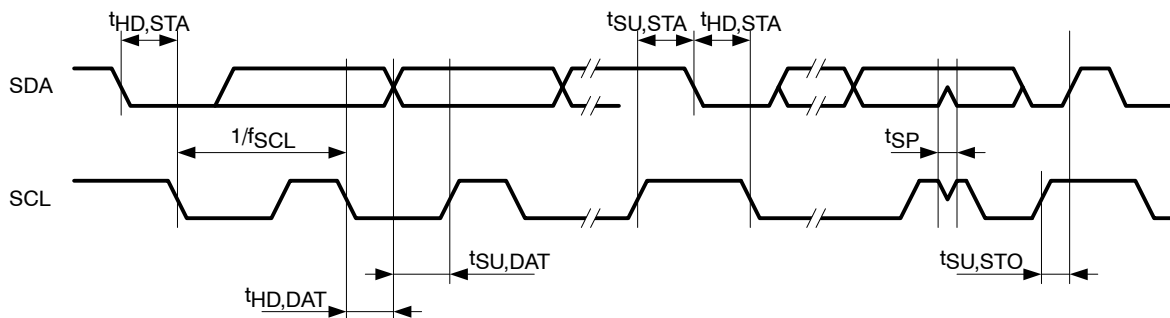

**Figure 25. I2C Mode Timing**
**USCI (I2C mode) (see Figure 25)**